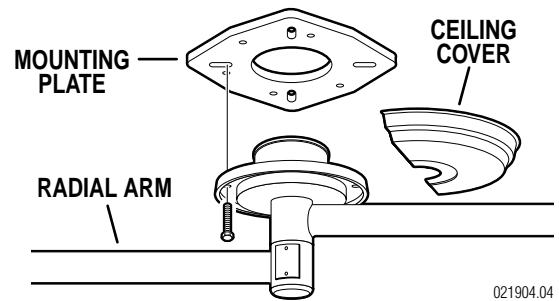

Figure 2. Radial Arm Installation
c. Install the ceiling cover and secure. See figure 2.